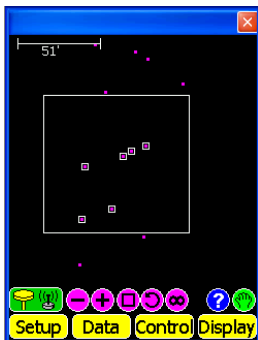

Figure 2-7. Point Selection
1. Select the desired points and linework on the main screen. Press the **selection window** button on the toolbar and draw a square around the desired points and linework (Figure 2-7).